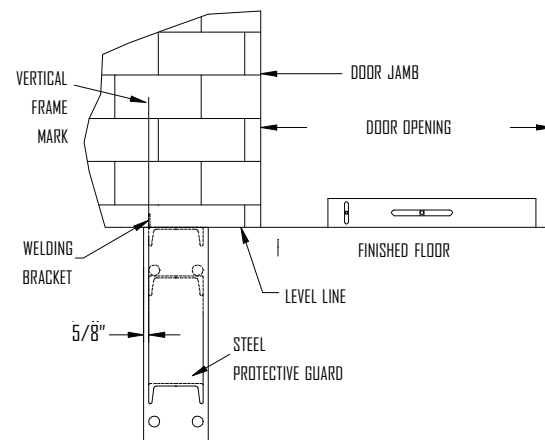

FIG.3B
- The welded bracket goes to the side farthest away from door opening (Figure 3b).